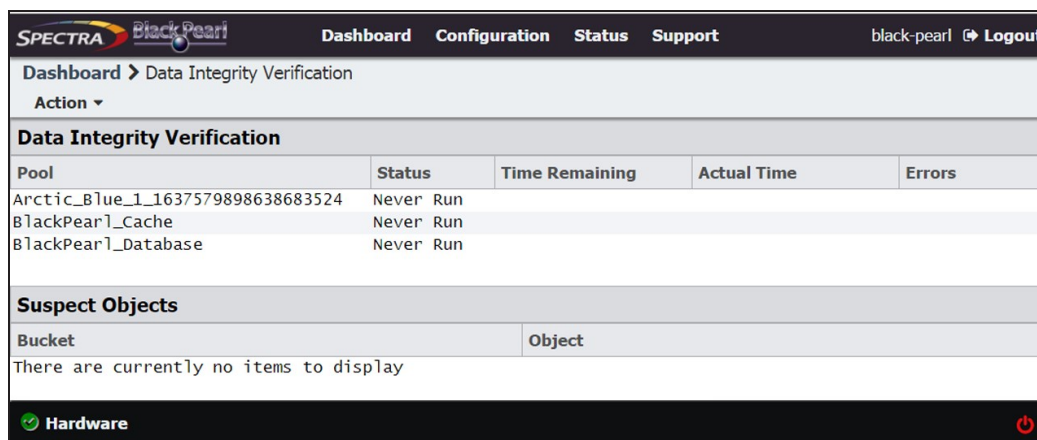

Figure 264 The Data Integrity Verification screen.
1. From the menu bar, select **Support > Tools > Data Integrity Verification**. The Data Integrity Verification screen displays (see Figure 264 on page 356).